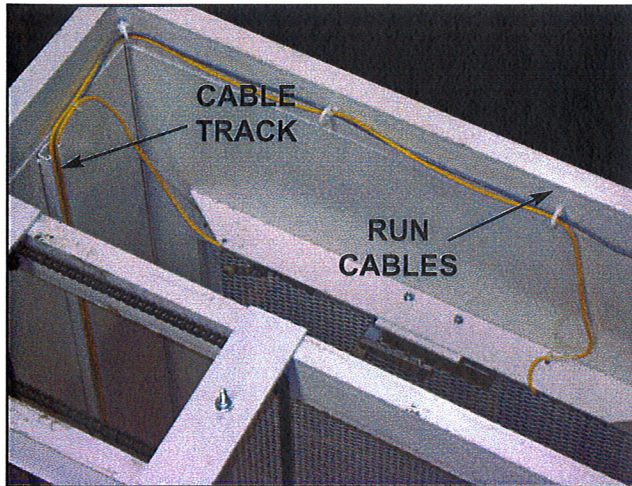

Figure 14
9. Run upper electrical component cables up back panel in unistrut and secure with covers. Route wires to appropriate components (wire markers) securing around top of lift out of way of any moving parts. Run push button cable over top of lift and down along edges to push button station mounted near gate handle. Secure cable out of way. See Figures 14, 15 and 16.